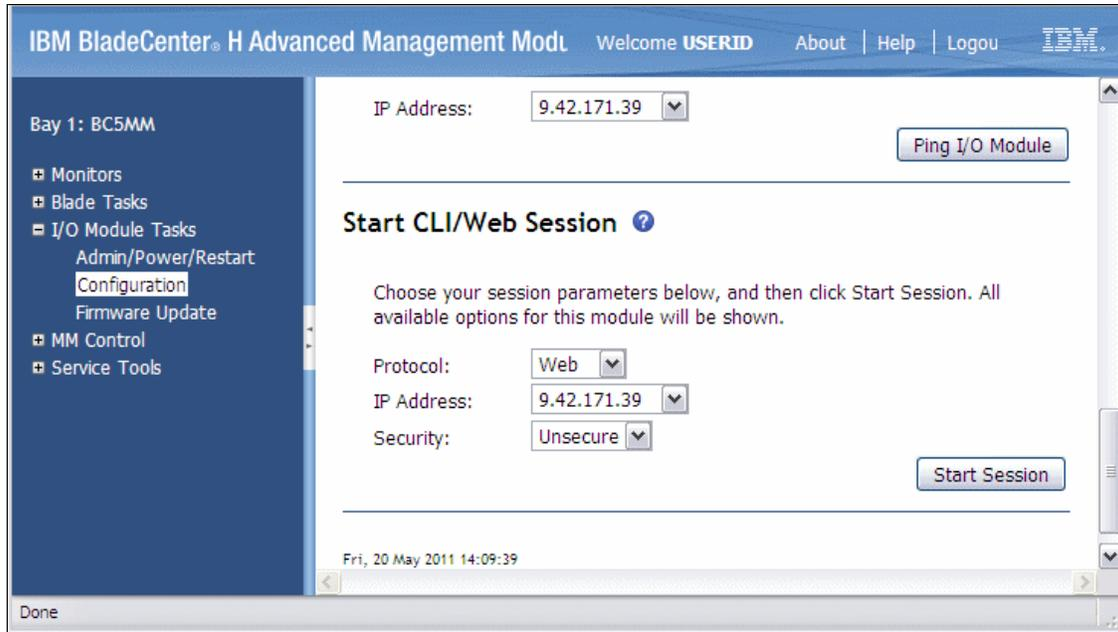

Figure 5-12 AMM web interface: Starting the CLI web session
- c. In the Start CLI/Web Session (Figure 5-12), verify that the Protocol field is set to **Web** (not Telnet), and then click **Start Session**.